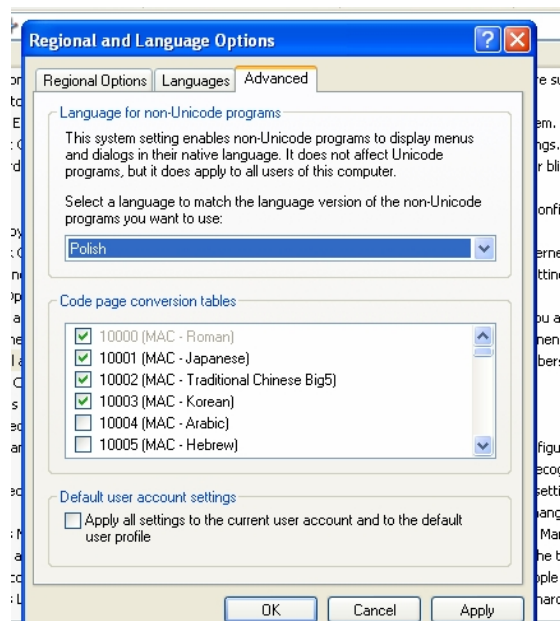

Figure 52: “Advanced” tab view in “Regional and Language Options” pop-up window
Step 4: Click on the “Advanced” tab in the “Regional and Language Options” pop-up window. The pop-up window will change as shown in Figure 52.